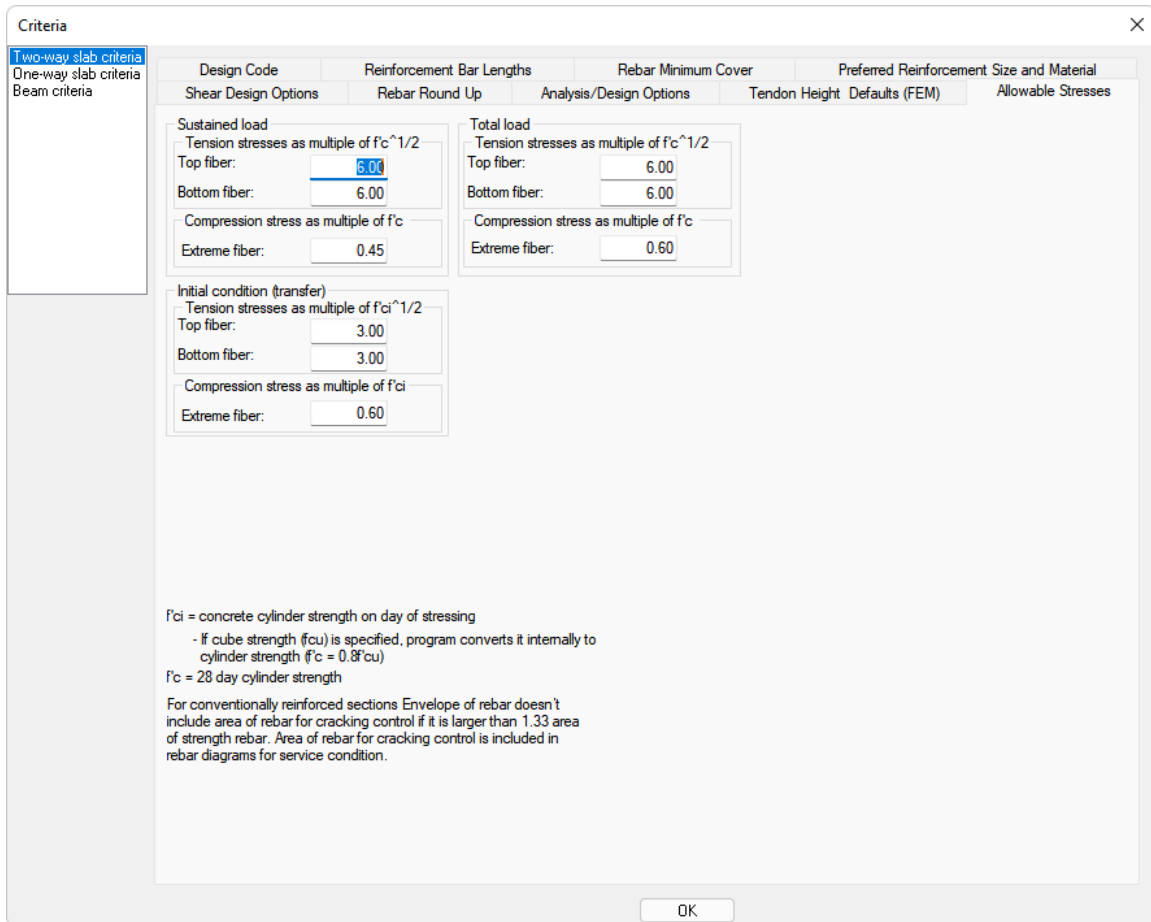

FIGURE 2-18
- Click on the **Allowable Stresses** tab. This will open the window from **FIGURE 2-18**.